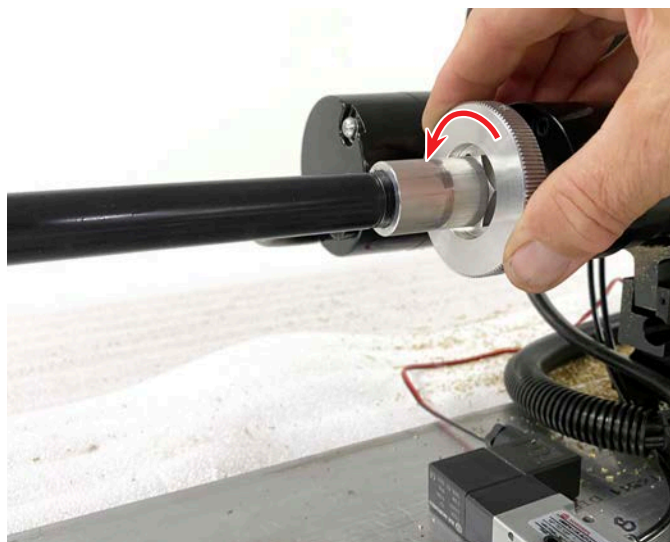

FIGURE 5
4. Turn the LCC draw bar knob by hand so you can see how much runout there is in the bar feeder tube (see Figure 5).